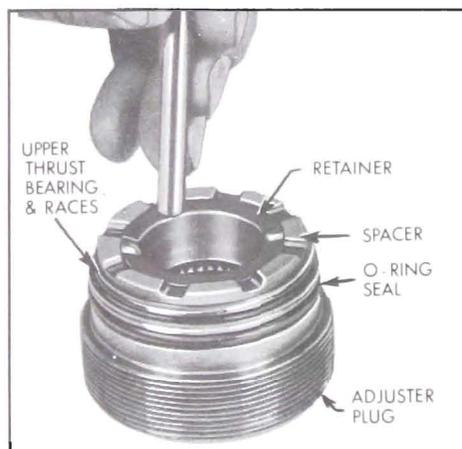

Figure 8-39—Installing Upper Thrust Bearing Retainer
3. Lubricate new adjuster plug "O" ring seal with petroleum jelly and install on adjuster plug. Assemble large O.D. thrust bearing race with internal flange up on adjuster plug, then thrust bearing, smaller thrust bearing race and thrust bearing spacer on adjuster plug. Install new thrust bearing retainer into needle bearing bore using punch, being careful not to damage spacer. See Figure 8-39.